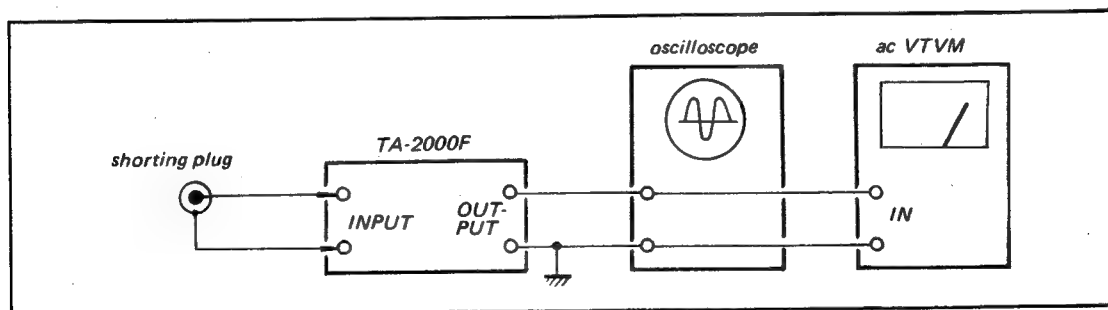

Fig. 3-6. Noise level check test setup
1. With the equipment connected as shown in Fig. 3-6, measure the output noise level at each FUNCTION switch position, with the corresponding input terminals shorted.